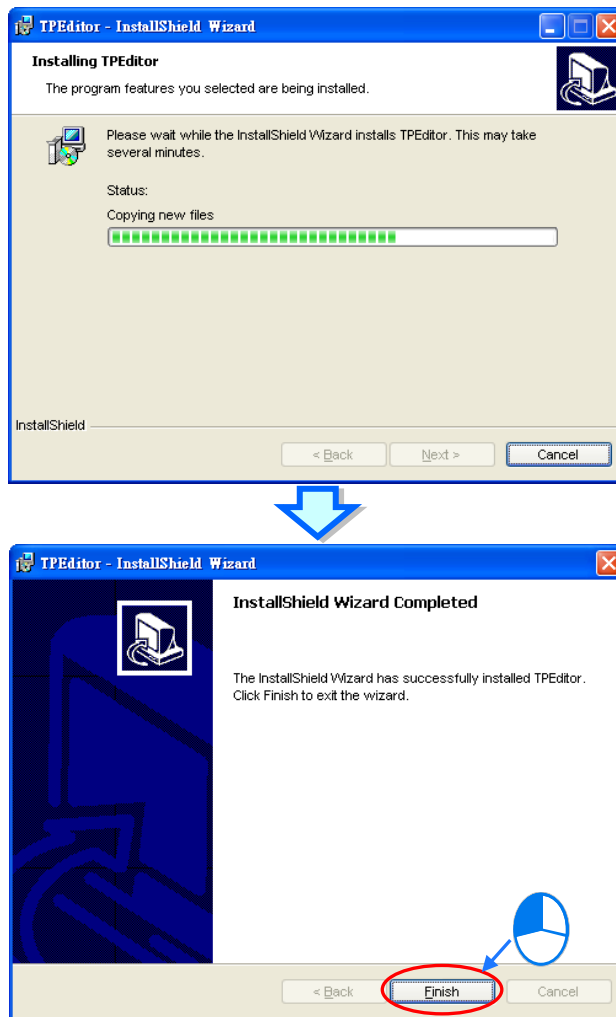

Figure 1-6 Completing the installation of TPEditor
(8) After TPEditor is installed, shortcuts to the program are created on the desktop and the **Start** menu. Click **Finish** to complete the installation, as shown in Figure 1-6.